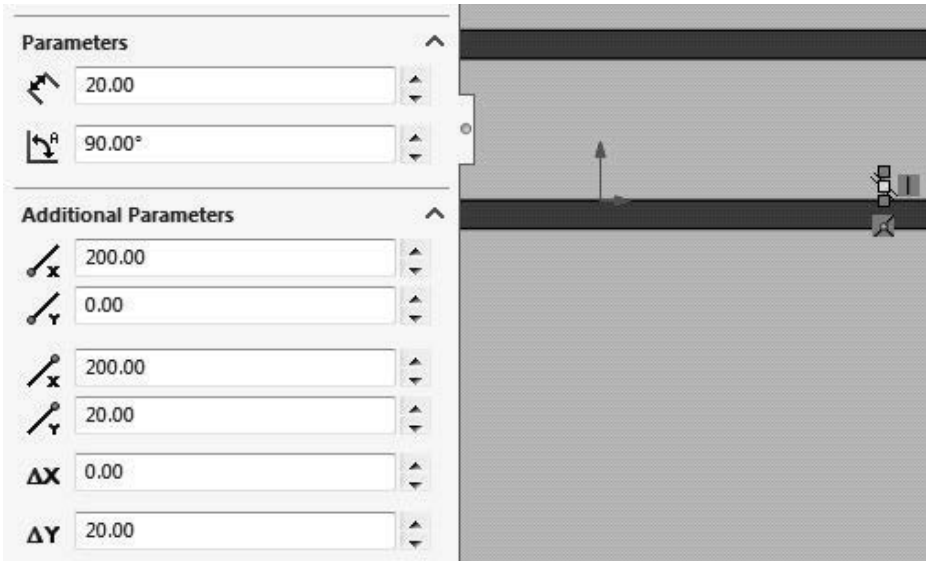

Figure 2.7 Parameters for vertical line
7. Draw a vertical line in the positive Y-direction in the front plane starting at the lower inner surface of the sketch. Set the **Parameters** and **Additional Parameters** to the values shown in figure 2.7. Close the **Line Properties** dialog  and the **Insert Line** dialog.